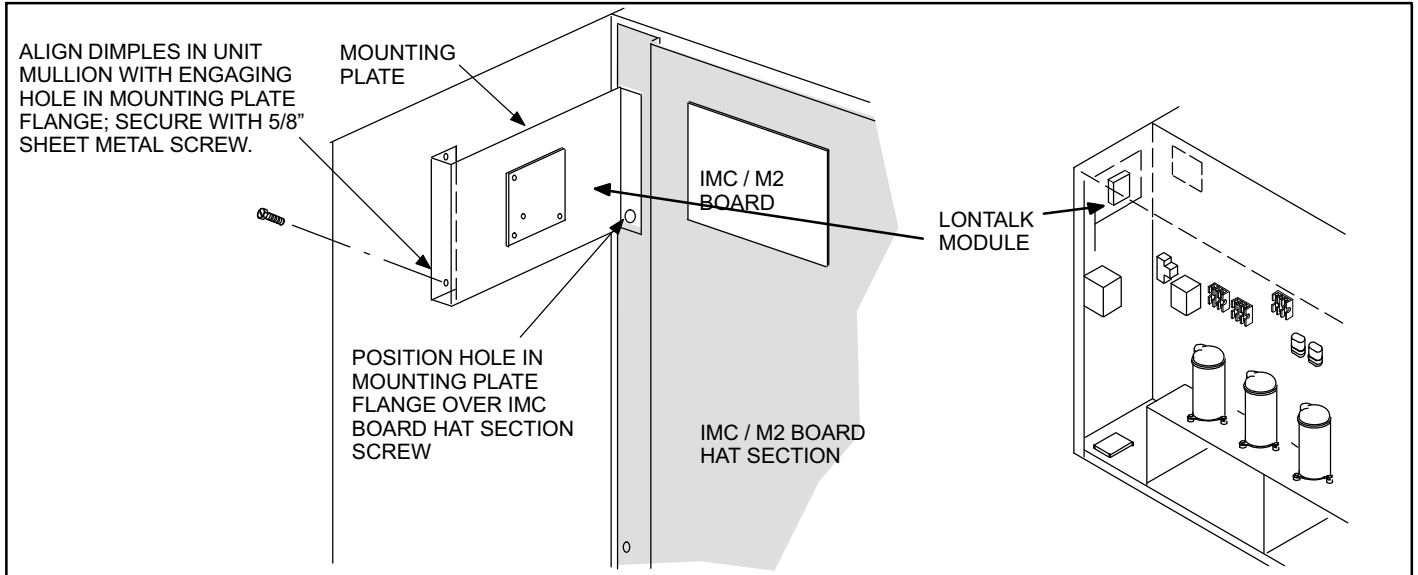

Figure 5. LonTalk Module (150/360 units (B, C, & D box))
- B, C, & D Box (150/360 units)**—Position the mounting plate in the location shown in figure 5. Secure with 7/8" screws. Install the LonTalk module on the mounting plate and secure with #6 screws.